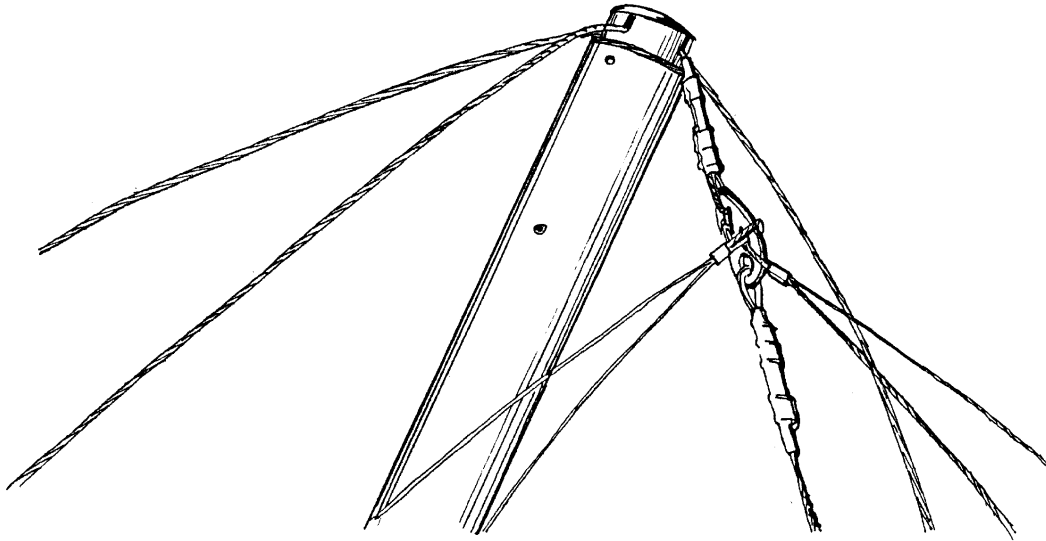

Fig.11
2.2.7. Attach the hook of the top rear wire and the washout wires to the thimble of the top front wire (Fig.11). Make sure that the hook is not inverted and the reflex wires or top wires are not twisted.